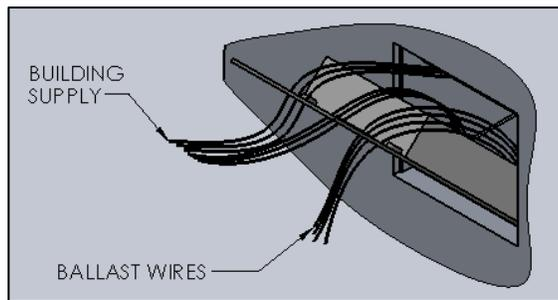

FIG. 15- DETAIL SHOWING BUILDING SUPPLY AND DRIVER WIRE CONNECTION
- Make BUILDING SUPPLY wire connections and tuck them into the top section of the box leaving the DRIVER WIRES out as shown in FIG. 15.